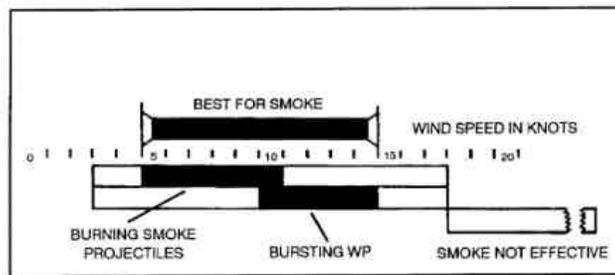

Figure B-11. Optimum wind speeds for mortar smoke and white phosphorus.
(1) During unstable conditions, mortar smoke and WP rounds are almost ineffective--the smoke does not spread but often climbs straight up and quickly dissipates.
(2) Under moderately unstable atmospheric conditions, base-ejecting smoke rounds are more effective than bursting WP rounds. The M819 RP round for the M252 mortar screens for over 2 1/2 minutes.
(3) Under stable conditions, both RP and WP rounds are effective. The higher the humidity, the better the screening effects of mortar rounds.
g. The M819 RP round loses up to 35 percent of its screening ability if the ground in the target area is covered with water or deep snow. During extremely cold and dry conditions over snow, up to four times the number of smoke rounds may be needed than expected to create an adequate screen. The higher the wind velocity, the more effective bursting WP rounds are, and the less effective burning smoke rounds become (Figure B-11).